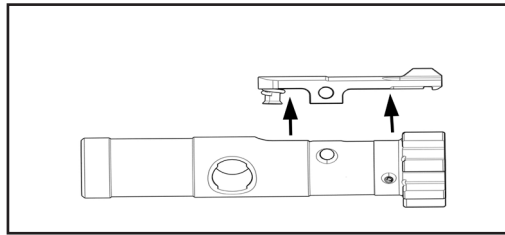

Fig. 43 - Separate the extractor form the bolt head
- h. Separate the extractor from the bolt head (Fig. 43).
- b. Insert the extractor with spring and buffer into the bolt head. Place pressure on the back of the extractor, line up the mounting surfaces and install the extractor pin. Ensure the extractor pin is centered in the bolt head before attempting to install the bolt head into the bolt carrier (Fig 43).